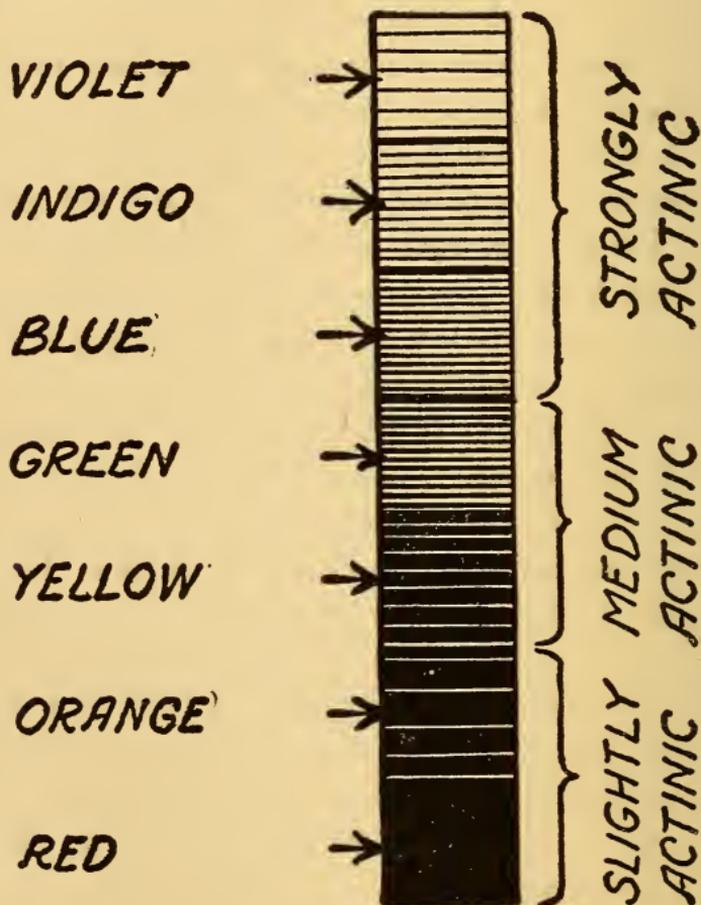

FIG. 64. ACTINIC VALUES FOR LIGHT OF DIFFERENT COLORS
**How a Negative Is Made.**—When the light reflected from an object passes through the lens of a camera and falls on a plate or a film it partly decomposes the silver bromide and sets free the bromide ( $\text{Br}$ ) and pure silver ( $\text{Ag}$ ) which is in the form of a brown powder. The extent to which the silver bromide is decomposed depends on (a) how much light falls on it and (b) what color the light is. Violet light acts most, blue light next, green light about medium and red light scarcely at all. White light is a mixture of red, green and violet. Fig. 64 shows the photographic values of lights of different colors.